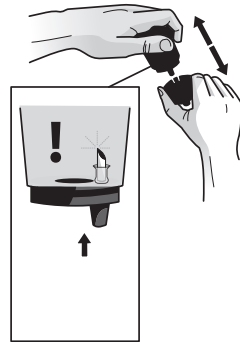

FIGURE 1
2. Cleaning the Funnel – The Funnel can be removed from the K-Cup® portion pack Holder by pulling on it until it snaps off (fig. 1). The Funnel is dishwasher safe. To replace it, just snap it back onto the K-Cup® portion pack Holder Assembly.